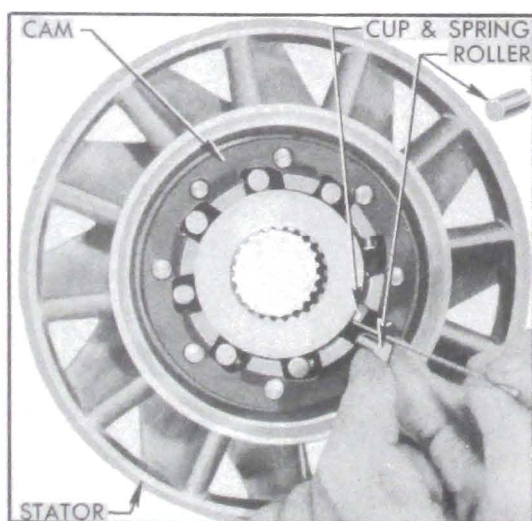

Figure 4-26—Installing Free Wheel Roller
3. Install springs and cups and free wheel roller race in the cam on front side of converter stator, then use a suitable thin blade to depress the cup and spring while inserting each of the free wheel rollers. See figure 4-26 and 4-18.